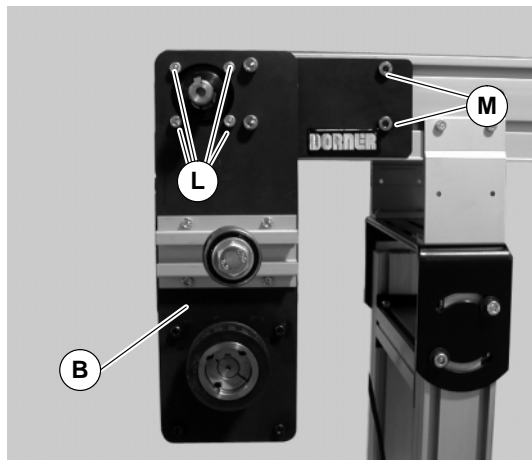

Figure 4
3. Attach bottom mount drive assembly (B of Figure 4) with two (2) M8 screws (M) and four (4) M6 screws (L). Tighten M6 screws (L) to 146 in-lbs (16.5 N-m) and M8 screws (M) to 288 in-lbs (32.5 N-m).